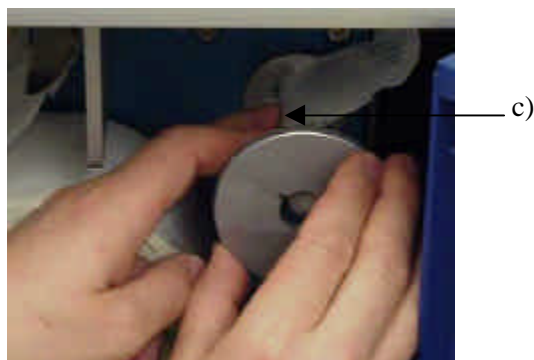

Figure 27: Leader Clamped in Crimp Slot
- The leader should be clamped into the slot in the take-up spool (**Figure 27**).